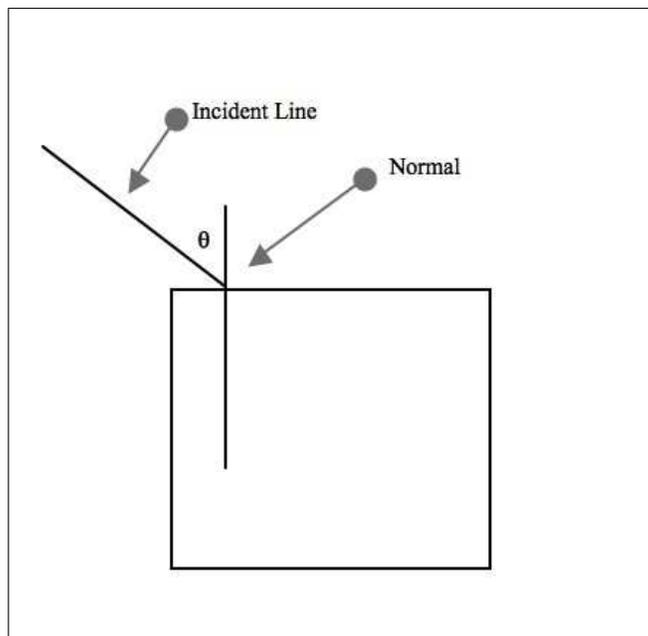

Figure 21.9: Refraction - Initial
28. In the upper-left corner of the traced square, draw a line normal to the square, about 2 cm from the corner (Fig. 21.9).